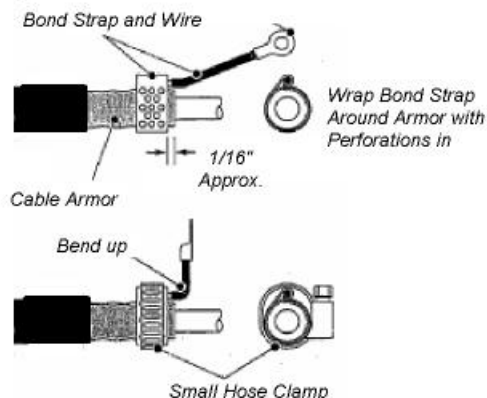

Figure 7a - Applying Bond Strap to Cable
12.01 Wrap the Bond Strap with the perforations facing cable and firmly around the cable armor (and the dual metal strength members when using LXE type cable) with the wire and ring terminal pointed away from the cable jacket as shown in **Figure 7a**.